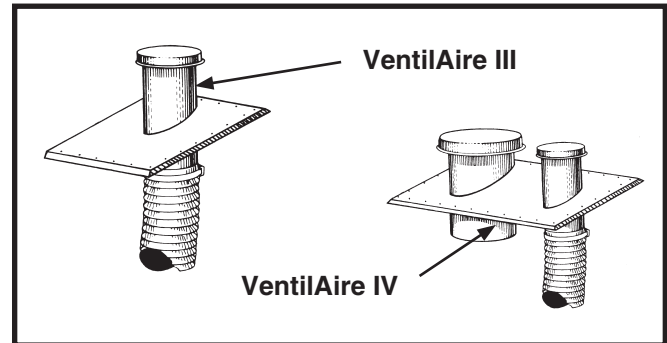

Figure 5. VentilAire III & IV
The VentilAire air quality accessory packages are available to meet the ventilation requirements as outlined in H.U.D. Standard Part 3280.103 (b) (2). These packages introduce outdoor air into the living space during furnace blower operation. The VentilAire IV also serves to exhaust moist and/or hot air from the attic space. See Figure 5 for typical installation. Complete installation instructions are supplied with each air quality package.